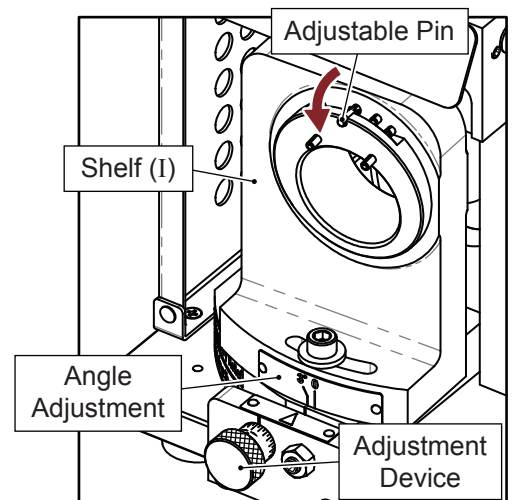

Fig. 11-1
### 1. Secondary Relief Grinding Shelf (I) (Fig. 11-1)
- ① Adjust Shelf (I) to  $3^\circ$ .
- ② Move the adjustable pin on Shelf (I) from the top to bottom.
- ③ Adjust the Cutting face adjustment device to “0”, after finishing the whole sharpening procedure, then adjust this device according to your needs. (See chapter “XIV. The use of the Cutting Face Adjustment Device”)